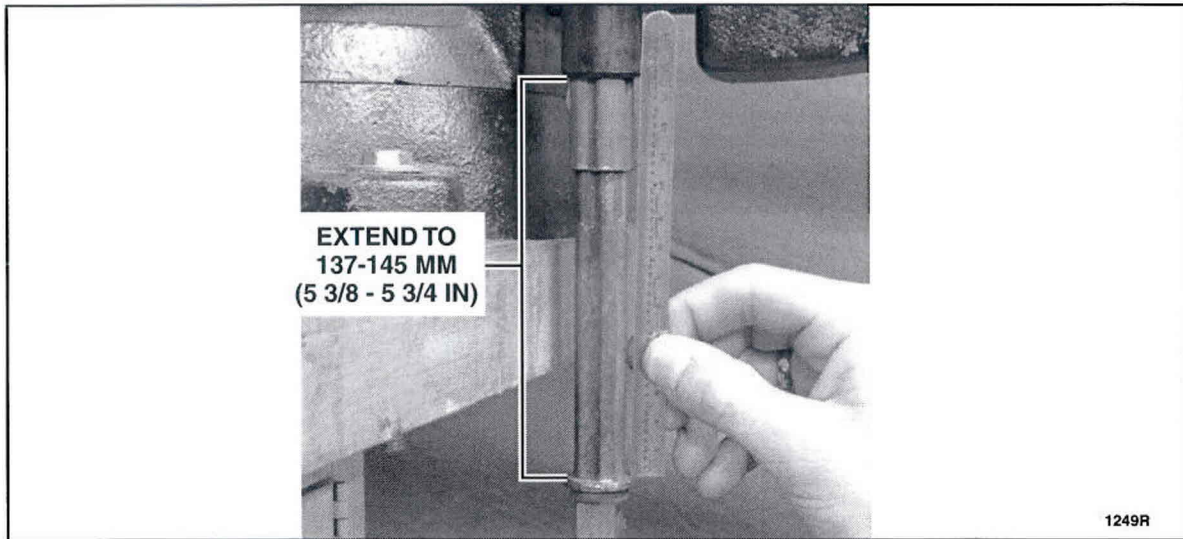

**FIGURE 6**
7. Using a suitable punch and 16 ounce hammer, lightly tap around the steering shaft lip to evenly extend the shaft to 137-145 mm (5 3/8 - 5 3/4 in). See Figures 6 and 7.